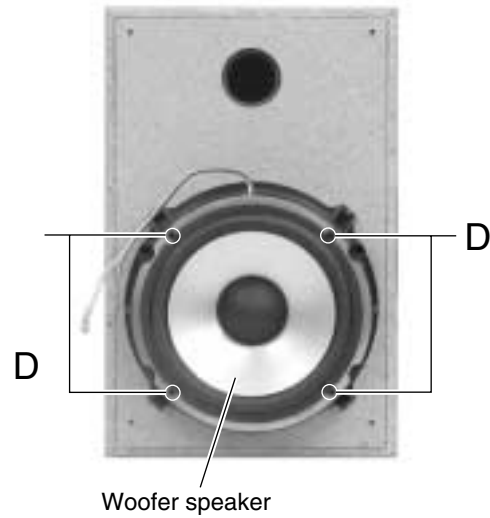

Fig.5
■ **Removing the woofer speaker (See Fig.5)**